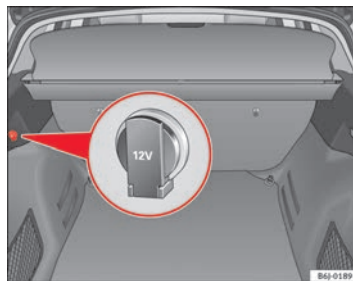

Fig. 82 Detailed view of the side trim in the luggage compartment: 12-volt socket
- Lift the power point cover ⇒ fig. 82.